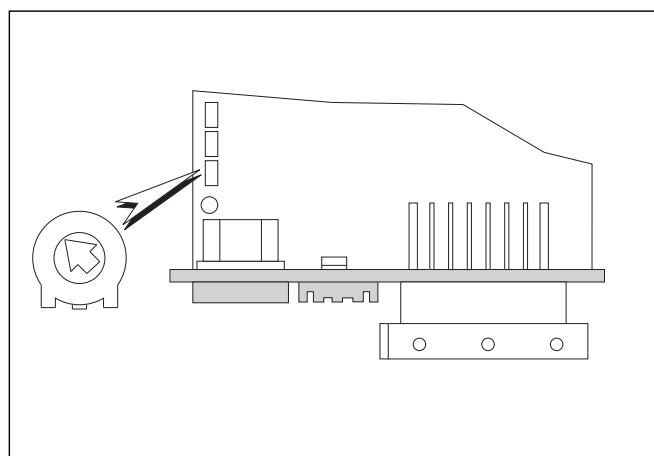

Fig. 15
- c - act on the trimmer shown in the fig. 15 by using the screwdriver supplied and stopping as soon as a different colour shade of the LED on the changeover switch appears/disappears. This passes from deep red to red-orange or vice versa,